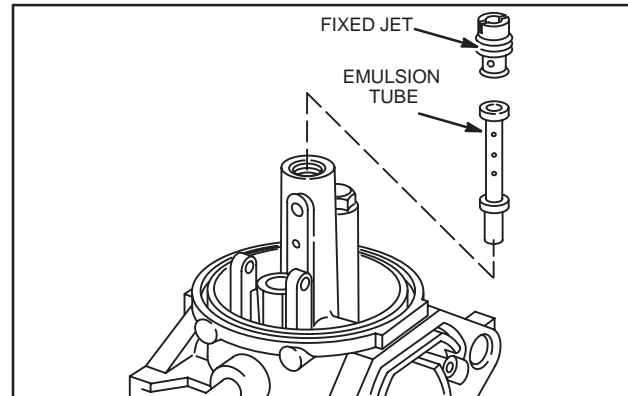

Fig. 8 – Removing High Speed Jet And Nozzle
4. Remove fixed high speed jet using screwdriver, Tool #19062, Fig. 8.